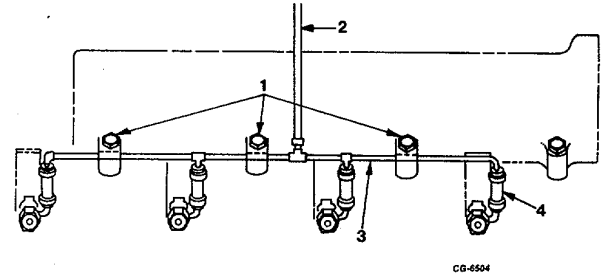

Fig. 39 Removal of Leak-Off Manifold
35. Remove eight mounting bolts from the left bank intake manifold (Figures 39 and 40)
36. Disconnect leak off return hose from leak-off manifold and injection pump valve, remove hose (Figure 39).
37. Remove leak off manifold with support clips from intake manifold and disconnect from nozzle coupling hoses, remove leak off manifold (Figure 39).
45. Remove right bank intake manifold in the same manner as the left, steps 35, 36, 37 and 38 (Figure 39 and 40).